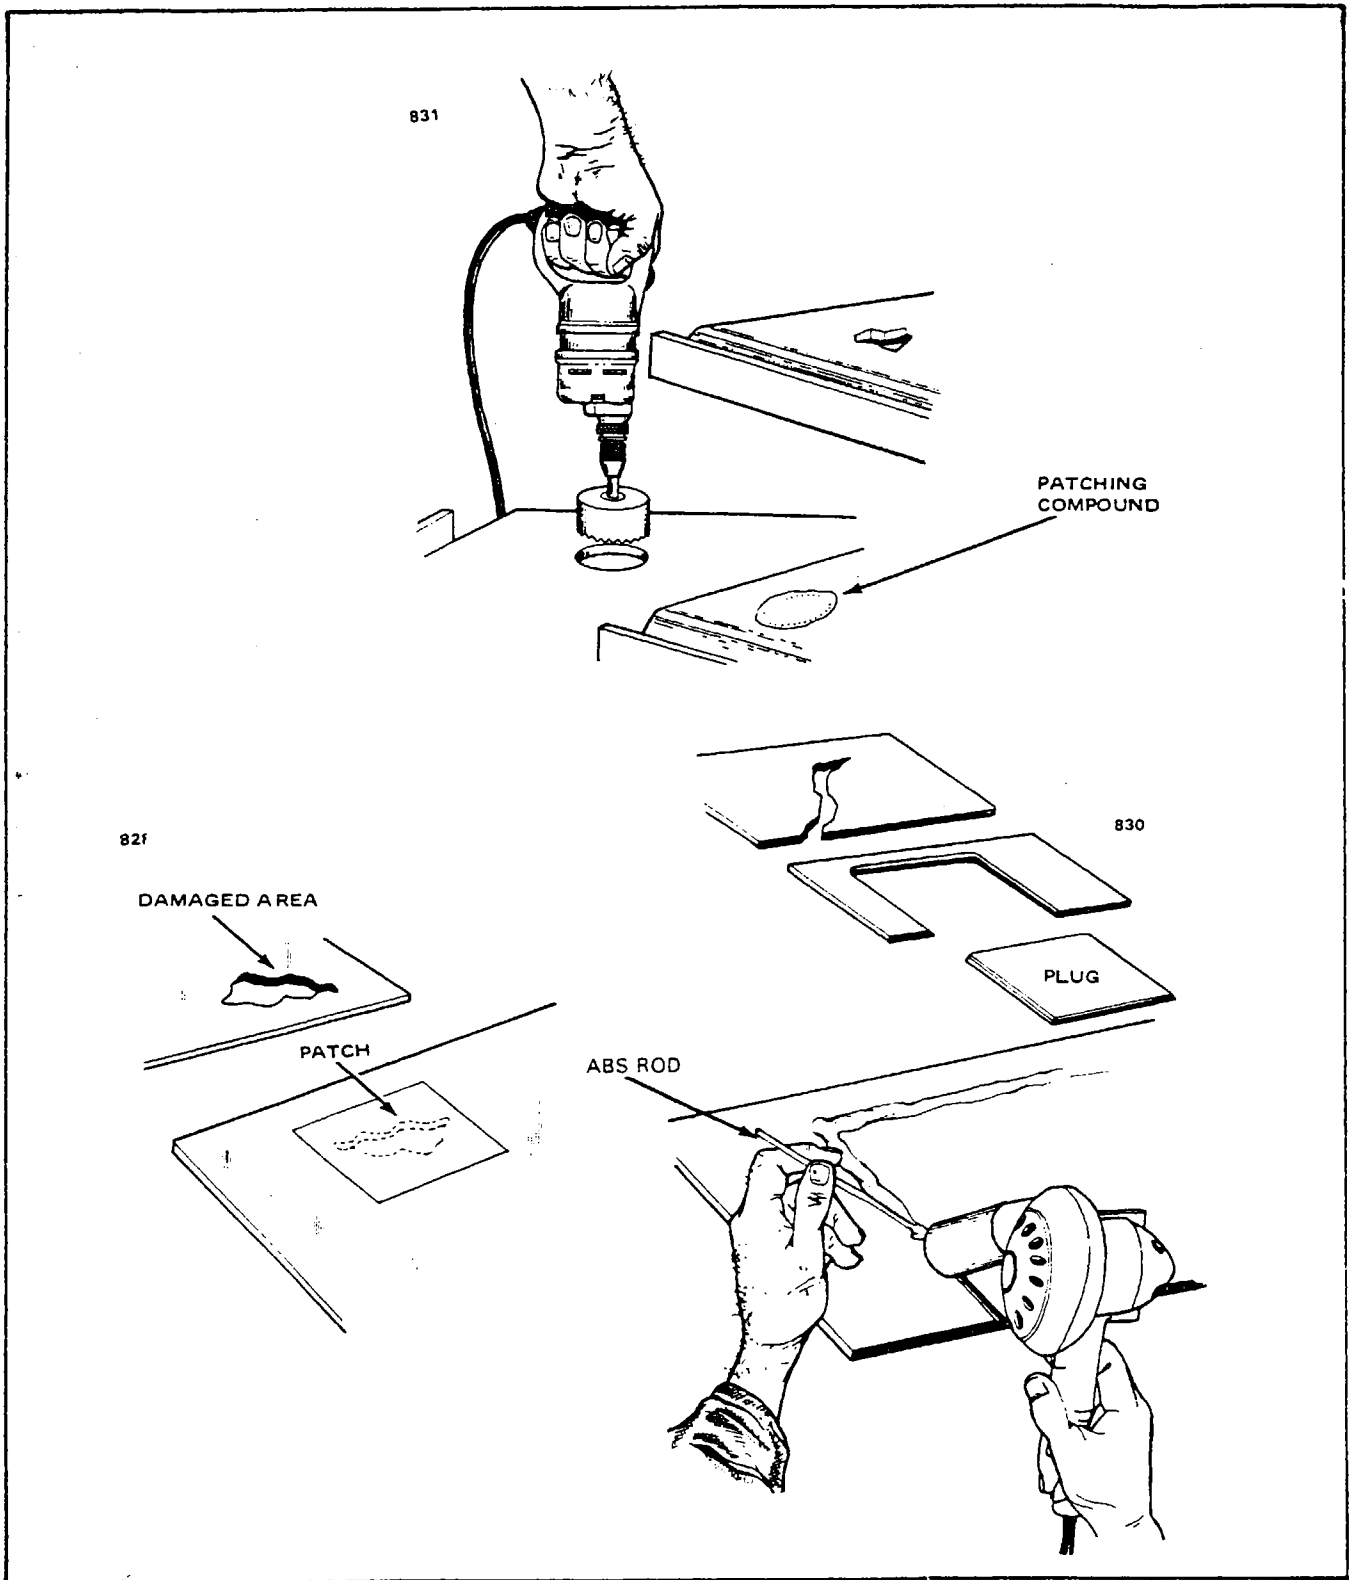

Figure 4-36. Various Repairs
- e. Repairing Major Damage: (Larger than 1 inch in diameter.) (Refer to Figure 4-36.)